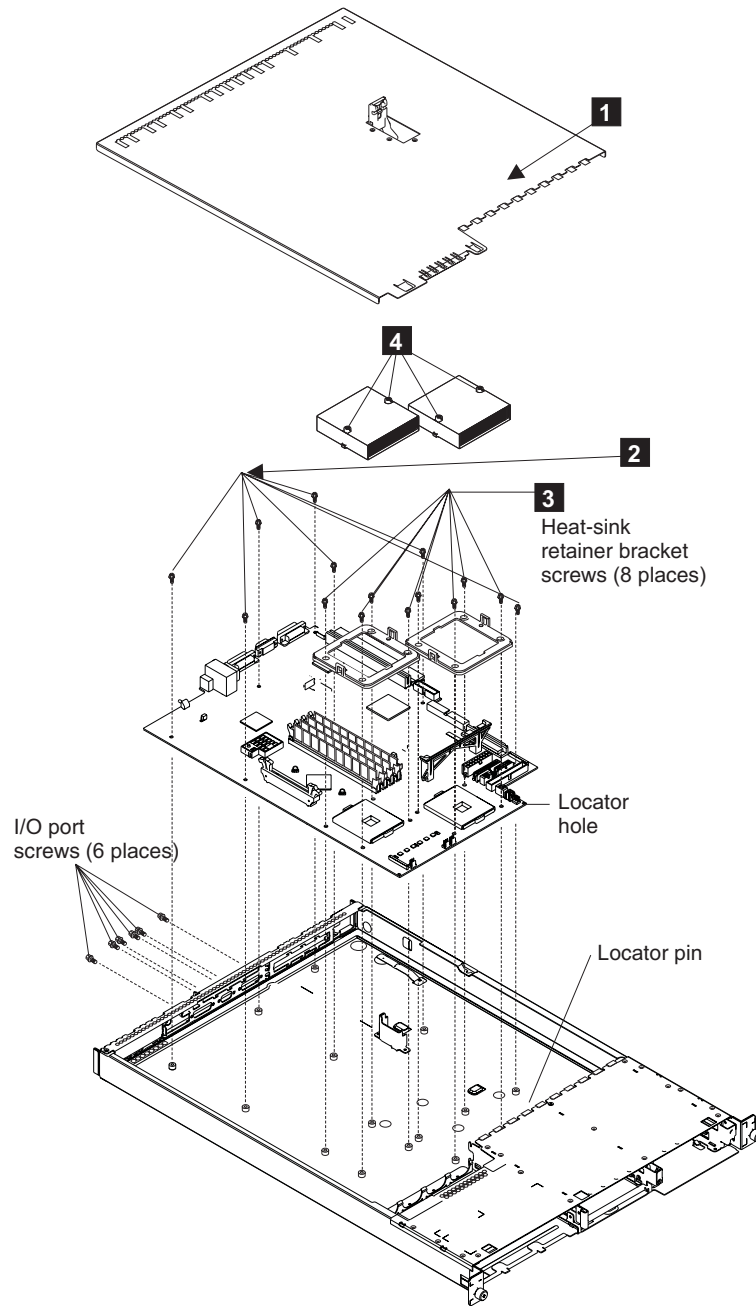

Figure 253. SAN Volume Controller 2145-4F2 system board
3. Remove the top cover from the SAN Volume Controller (**1** in Figure 253 on page 581).
8. Unscrew the heat sink captive screws (**4** in Figure 253 on page 581).
10. Remove the screws from each of the heat sink retainer brackets (**3** in Figure 253 on page 581).
13. Remove the seven screws (**2** in Figure 253 on page 581).